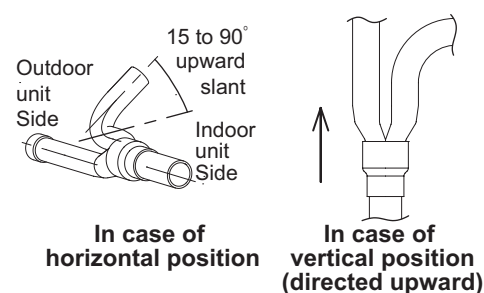

Fig. 2-304
- The distribution joint can be either horizontal or vertical. (Fig. 2-304)